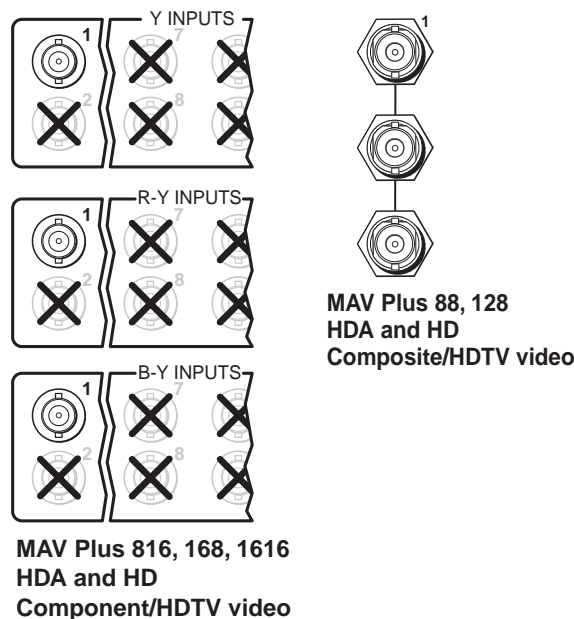
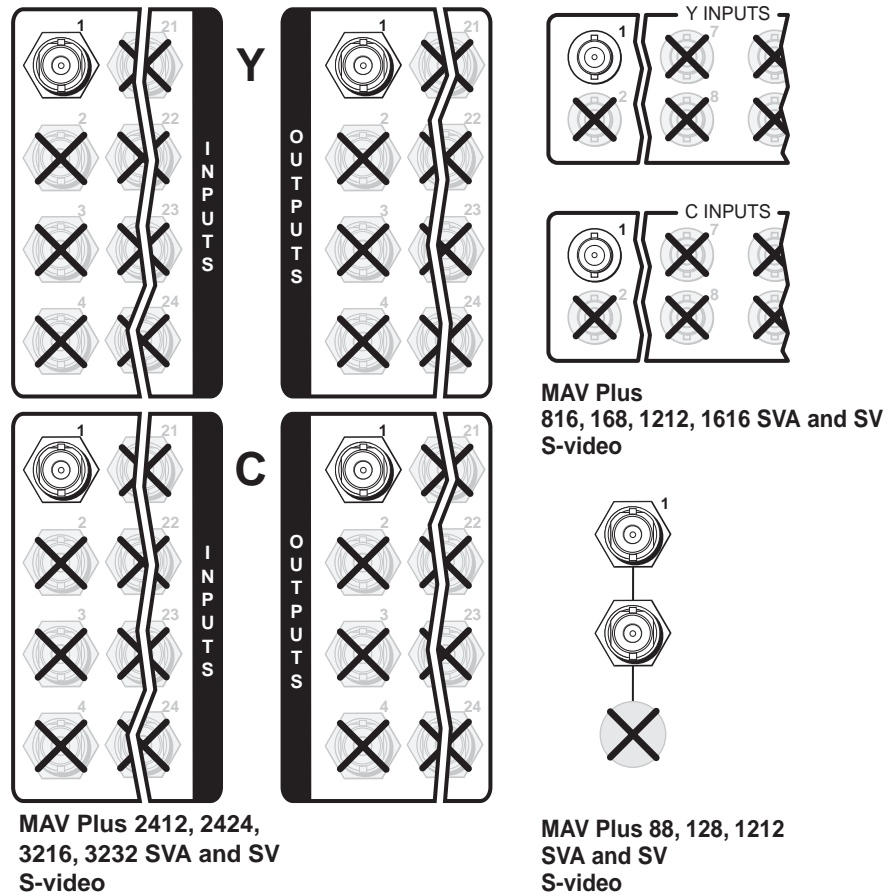
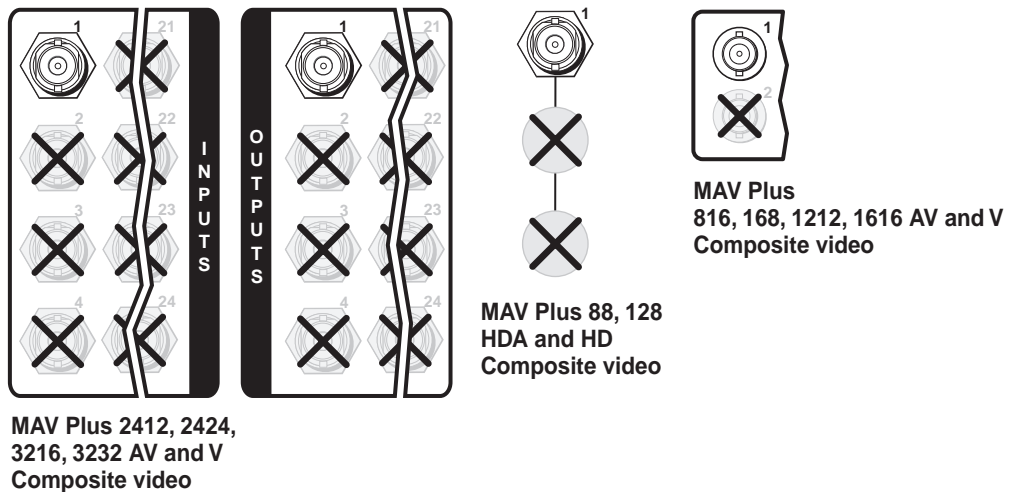

Figure 2-12 — MAV Plus component/HDTV video connections
Figure 2-13 — MAV Plus S-video connections
Figure 2-14 — MAV Plus video connections
NOTE The connectors for each video plane are grouped together (for example, for component/HDTV switchers, all of the Y inputs grouped together, all of the R-Y inputs grouped, and so on). Ensure that you connect the input on each video plane to the corresponding connector in the correct group (figure 2-12, through figure 2-14, below and on the next page).
- ① **Video inputs** — Connect component/HDTV video (figure 2-12), S-video (figure 2-13), or composite video (figure 2-14) inputs, as applicable, to these BNC connectors for each input.
- ② **Video outputs** — Connect component/HDTV video (figure 2-12), S-video (figure 2-13), or composite video (figure 2-14) displays, as applicable, or other devices to these BNC connectors for each output. Figure 2-14 shows how to connect the various video formats to each MAV Plus configuration.
NOTE The S-video (figure 2-13) and composite video (figure 2-14) connection drawings are all on the next page.